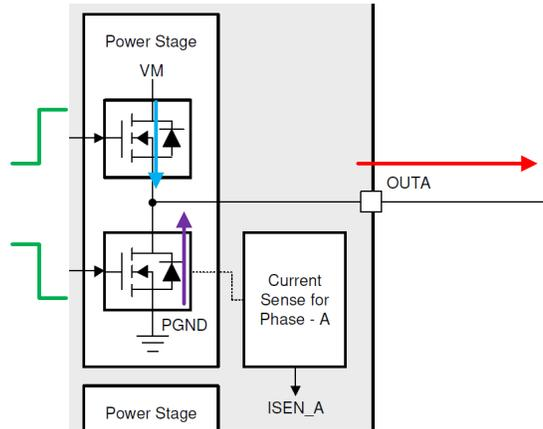

Figure 2-3. Current Switching With INHx Rising, INLx Falling, and Current Out of OUTx
In Figure 2-3, when INLx goes low (green), current is momentarily pulled through the body diode (purple) of the low-side (LS) FET to continue sourcing current out of OUTx (red). The duration the body diode of the LS FET conducts is the dead time. When the body diode stops conducting (dead time is over), the high-side (HS) FET begins to conduct (blue).